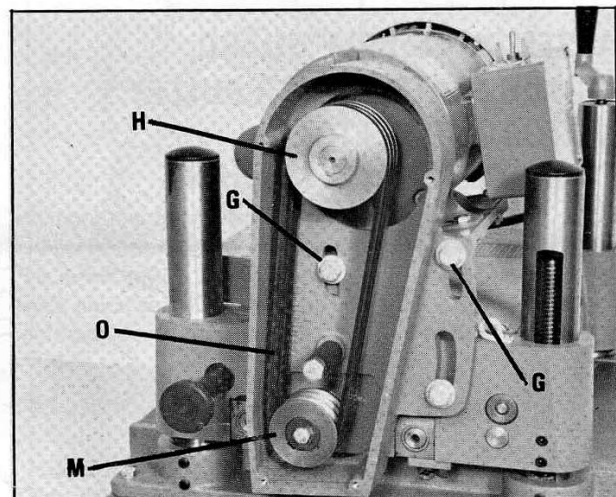

Fig. 16
6. Loosen two screws (G) so that motor plate will move down and assemble the three belts (O) to motor pulley (H) and cutterhead pulley (M), as shown in Fig. 16.